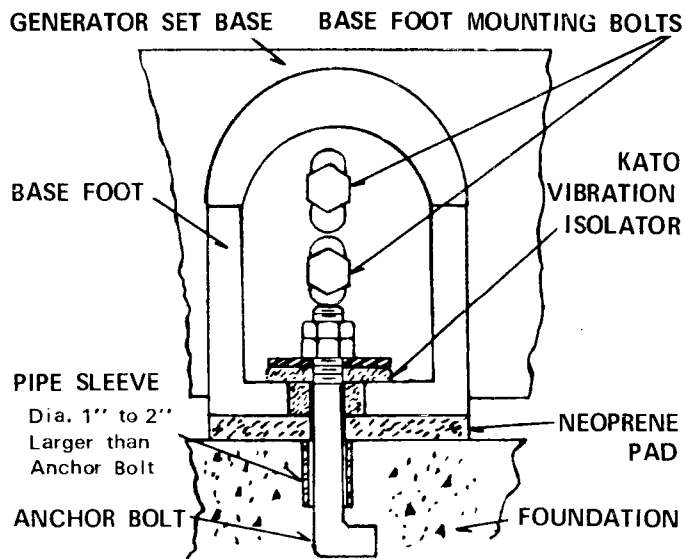

Figure 2-1 Leveling and Mounting Motor-Generator Sets which incorporate Kato Base Feet.
2.4.2 When generator sets are installed in areas such as office buildings where noise or vibration would be a nuisance, these undesirable effects can usually be eliminated or greatly reduced by installing vibration dampeners. KATO base mounting feet when properly installed provide a means of easily leveling generator sets as well as providing "vibration dampening". Install KATO base mounting feet as shown on figure 2-1